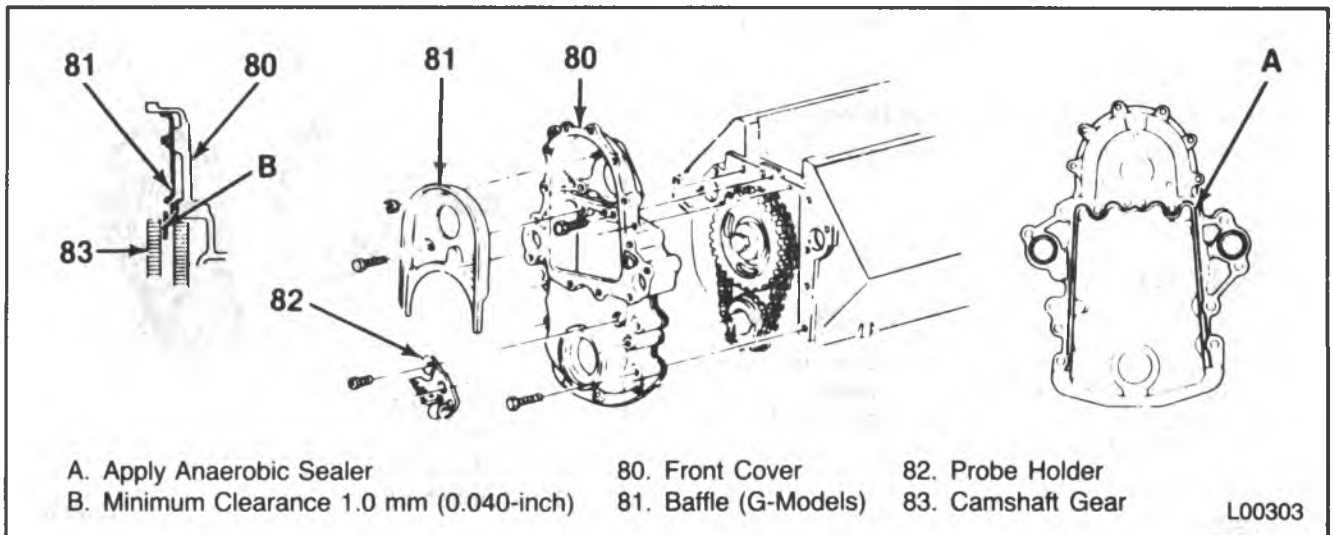

Figure 15 — Front Cover and Components
Remove or Disconnect (Figures 15 and 16)
- Apply a 2 mm (3/32-inch) bead of anaerobic sealant (GM part number 1052357 or equivalent) to the front cover sealing area shown in figure 15.
- Clearance between injection pump gear and baffle, if equipped (figure 15). It is necessary to maintain a minimum of 1.0 mm (0.040-inch) between the gear and baffle, or noise may result.
Install or Connect (Figures 15 and 17)